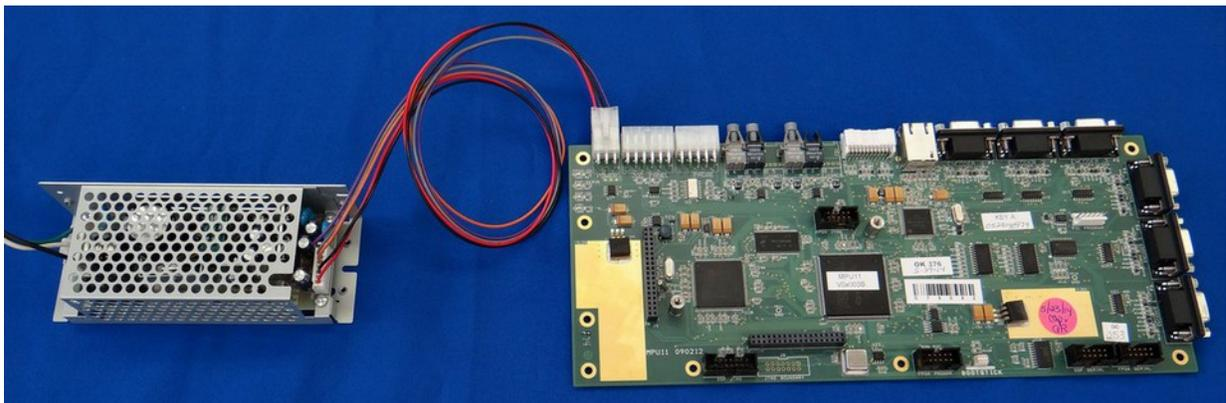

Figure 2.2.3
3. Connect the power supply input cable to rectangular plug labeled "power" in the MPU11 as shown in figure 2.2.3